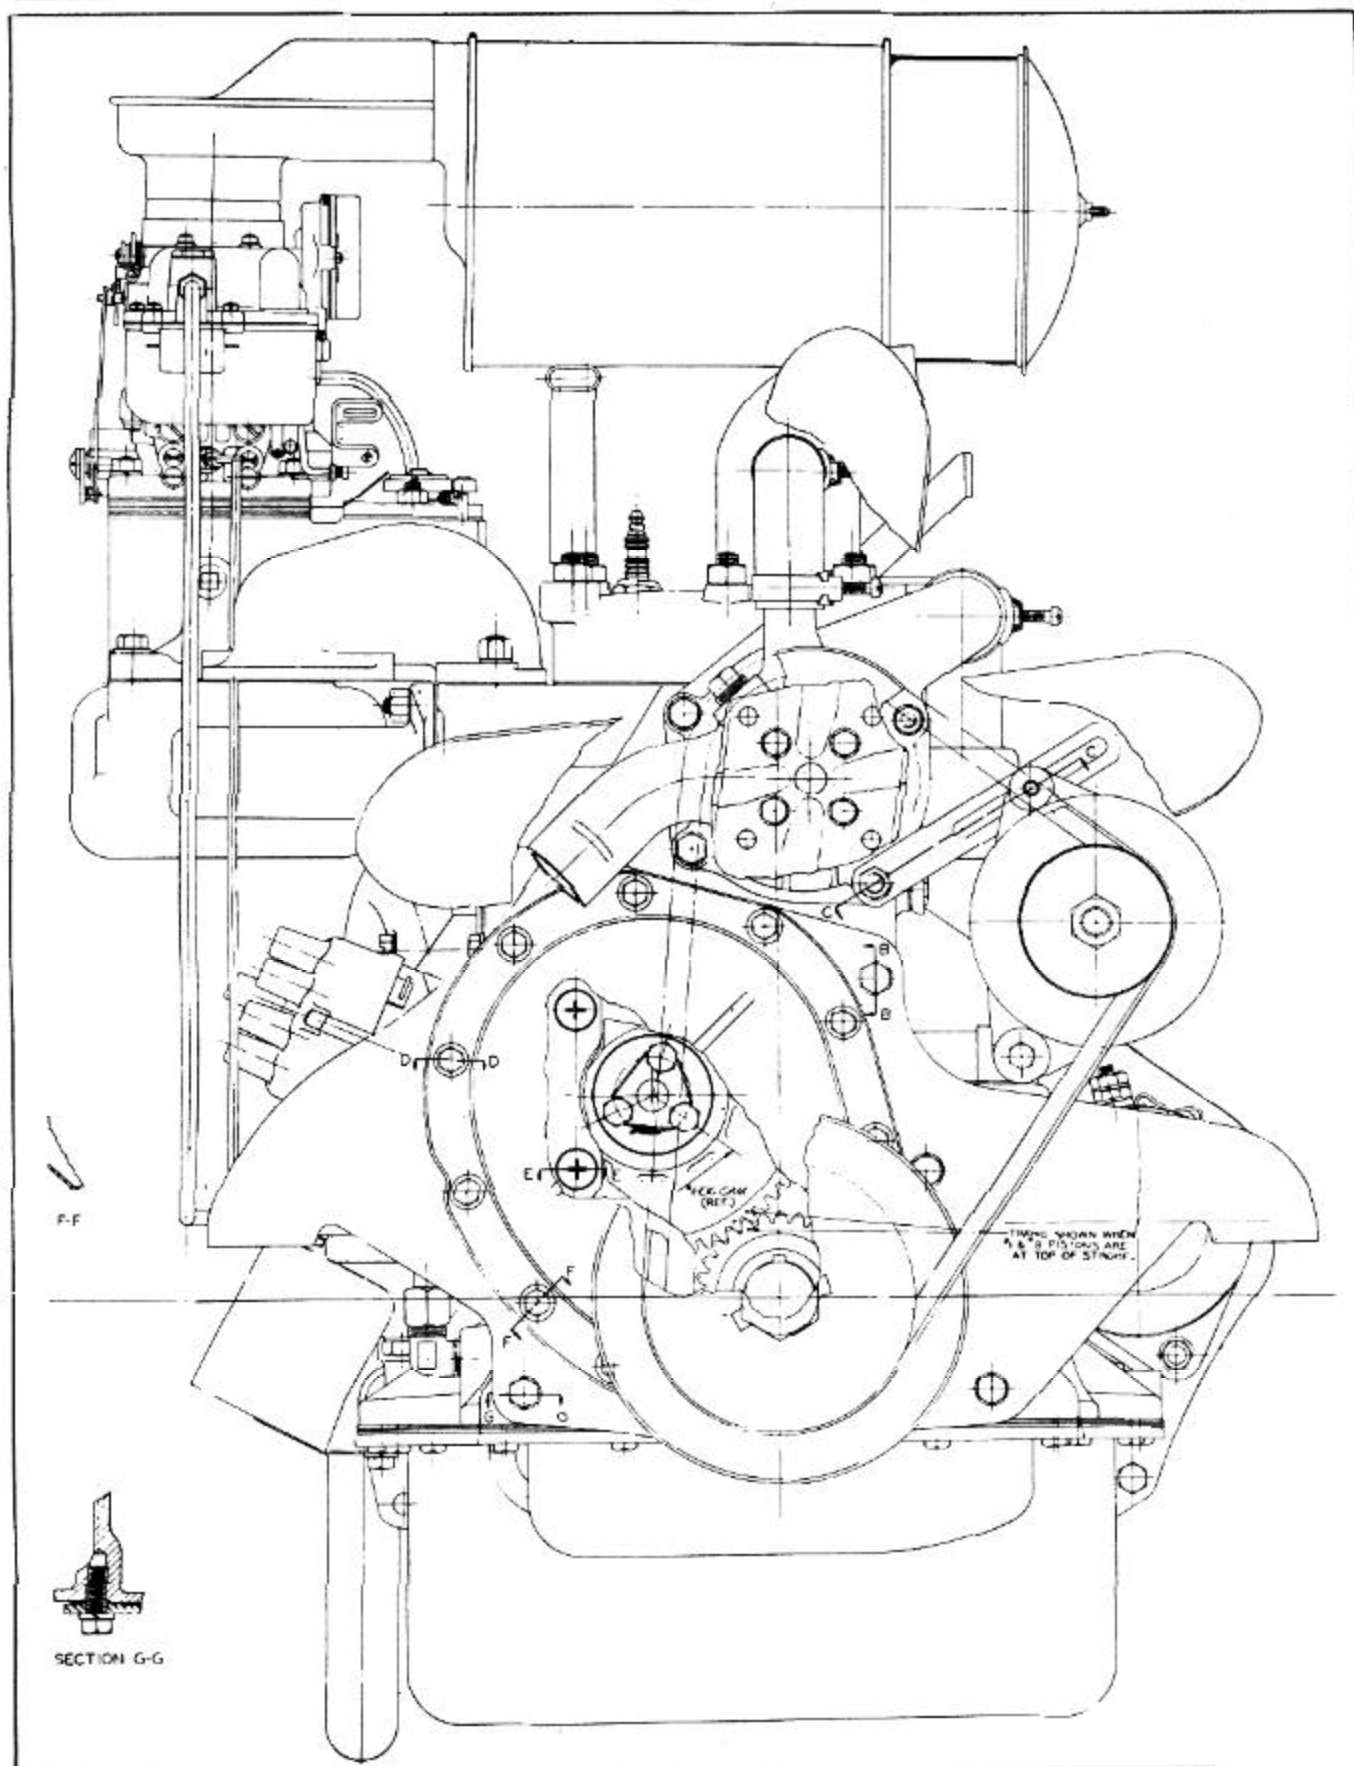

FIGURE 40
5. Install camshaft gear, meshing the punch marked tooth of the crankshaft gear between the two punch marked teeth of the camshaft gear, Figure 40, install camshaft screws and lock wire. Gear backlash should be .002" to .004".